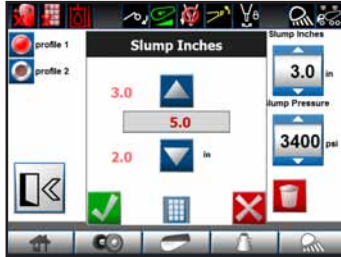

Figure 47
- Use the arrows or key in the desired slump point (Slump Inches). Touch the check mark button to save selection (Figure 47).